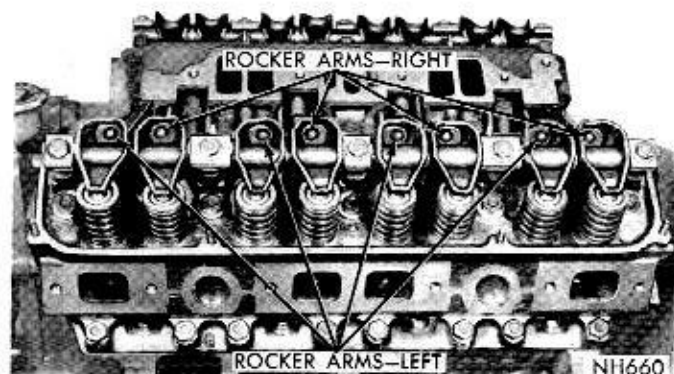

Fig. 4—Rocker Arm Assemblies Installed
- (1) Remove cylinder head cover and gasket.
- (2) Remove rocker shaft bolts and retainers and remove rocker arms and shaft assembly.
- (3) If rocker arm assemblies have been disassembled for cleaning, inspection, or replacement, refer to Figure 4 for proper reassembly.
- (7) Install rocker arm and shaft assembly starting each push rod into its respective rocker arm socket (Fig. 4) making sure to install the long stamped steel retainers in the number two and four positions. Tighten bolts to 25 foot-pounds.
- (8) Place new cylinder head gasket in position and install cylinder head covers. Tighten nuts to 40 inch-pounds.
- (9) Install exhaust manifolds and tighten nuts to 30 foot-pounds.
- (10) Adjust spark plugs to .035 inch gap and install plugs, tighten plugs to 30 foot-pounds.
- (11) Install a new tappet chamber cover and tighten end bolts to 9 foot-pounds.
- (12) Install intake manifold, carburetor and ignition coil as an assembly and tighten manifold bolts to 40 foot-pounds.
- (13) Install distributor cap. Connect the coil wire, heat indicator sending unit wire, accelerator linkage, spark plug cables and insulators.
- (14) Install vacuum control hose at carburetor and distributor.
- (15) Install closed ventilation system and evaporative control system (if so equipped).
- (16) Install alternator and drive belts. Tighten alternator adjusting strap bolt to 200 inch-pounds, and alternator mounting bolt to 30 foot-pounds.
- (17) Install fuel line and carburetor air cleaner.